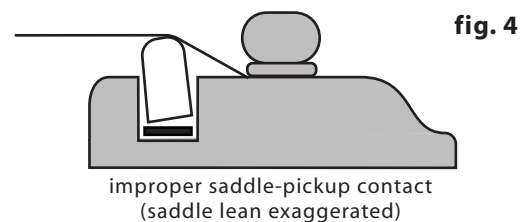

fig. 4
1. For optimum performance of this pickup, the bridge slot must have a clean, flat surface free of any debris or over-spray from the finish. The slot must be a minimum of .125" (1/8") deep but we suggest a depth of .187" (3/16") to avoid excessive saddle tilt (see figure 4).
**Important:** The fit of the saddle in the slot is the single most important factor in this installation. It is crucial that the bottom of the slot and the lower surface of the saddle be flat to make even contact with the pickup. The saddle should fit in the slot loose enough to be able to be just pulled out with your fingertips. If it is too tight or binds at all, this will have a negative effect on the string balance. Likewise, if the saddle is too loose, it will have a substantial forward tilt when under string pressure, causing it to make poor contact with the pickup (see figure 4).